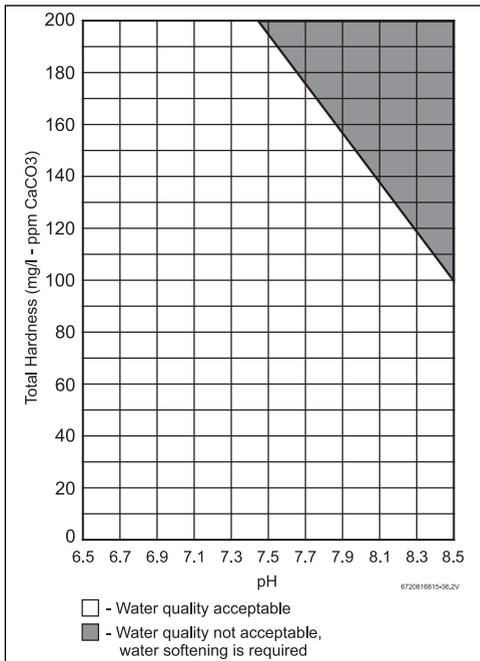

Fig. 12 Water total hardness and pH values
Water quality can have an impact on appliance longevity. Water supplied to the RTG-K-199/160N/X2 must be in accordance with table 8 and fig. 12.
For water analysis data call your local water department, or if on a well, have well water analyzed periodically. Heavy scale will form if the combination of water total hardness and pH exceeds the values specified in fig. 12 (grey area), Bradford White recommends consulting a local water treatment professional for water softening/conditioning options.
1. Total Hardness and pH maximum values must be evaluated in combination. Indicated maximum values will be reduced according to fig. 12.